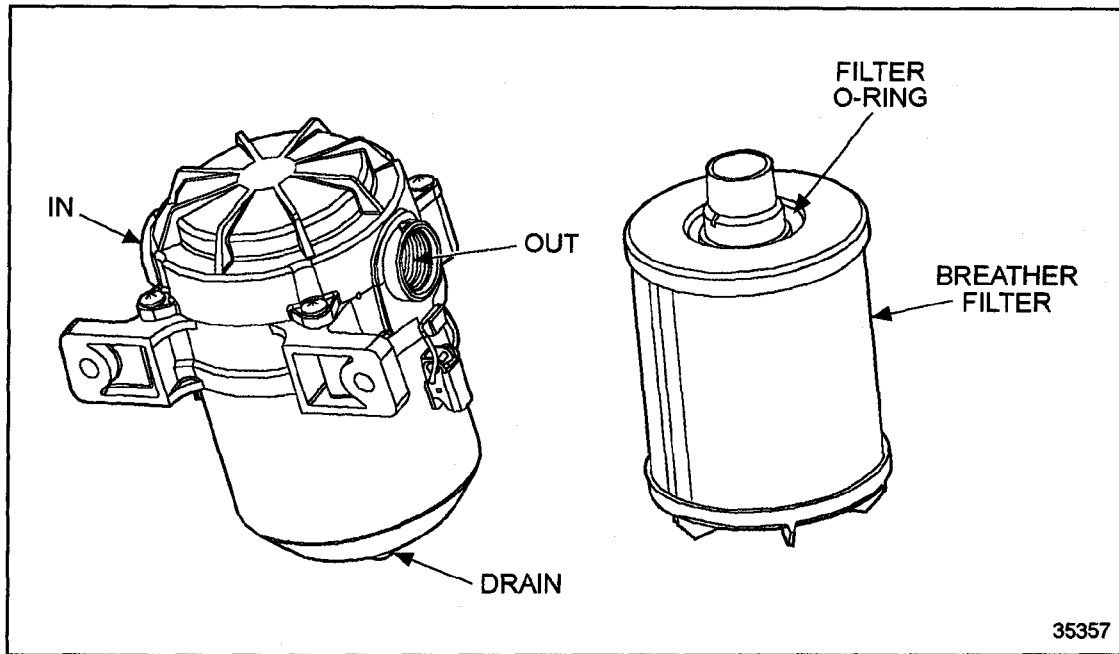

Figure 6-14 Crankvent and Breather Filter
Closed breathers are required for natural gas automotive engines in 1998. The Series 60G engine uses a remote mount Racor CV4500 Crankvent breather/filter. See Figure 6-14.
1. Insert new filter into the top of the assembly, ensuring the new filter contains the top O-ring. See Figure 6-14.